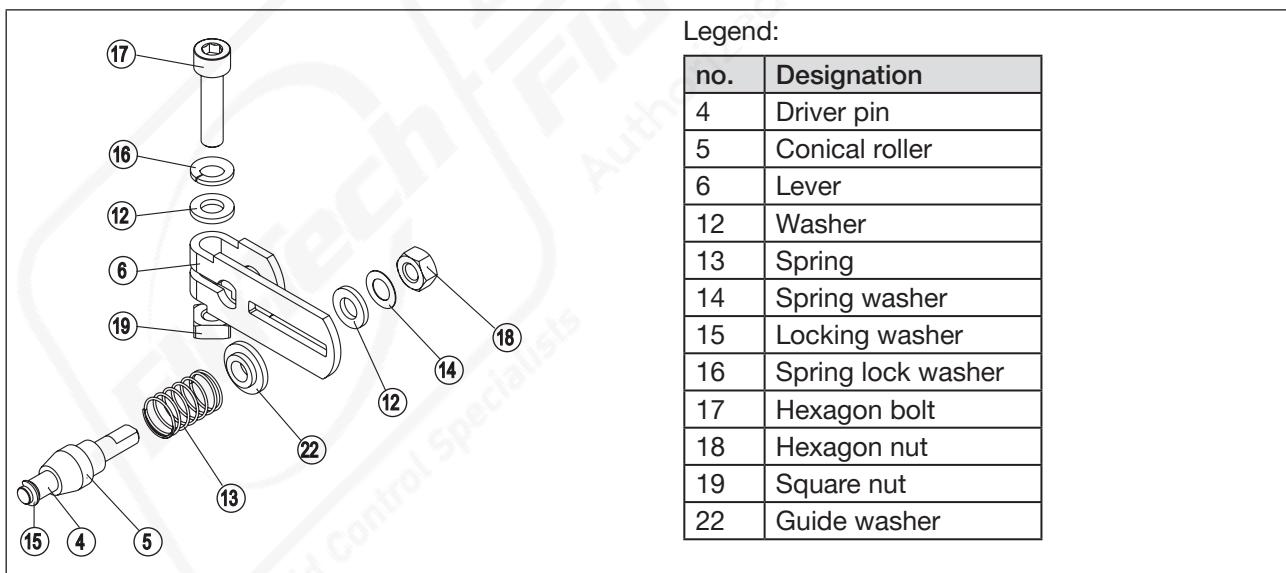

Figure 17: Mounting the lever
- Mount the hoop ② on the actuator spindle using the clamping pieces ③, the hexagon bolts ⑯ and the spring lock washers ⑯.
- Select the short lever ⑯ or the long lever ⑯ according to the stroke of the actuator.
- Assemble the lever, if not pre-assembled (see “Figure 17”).